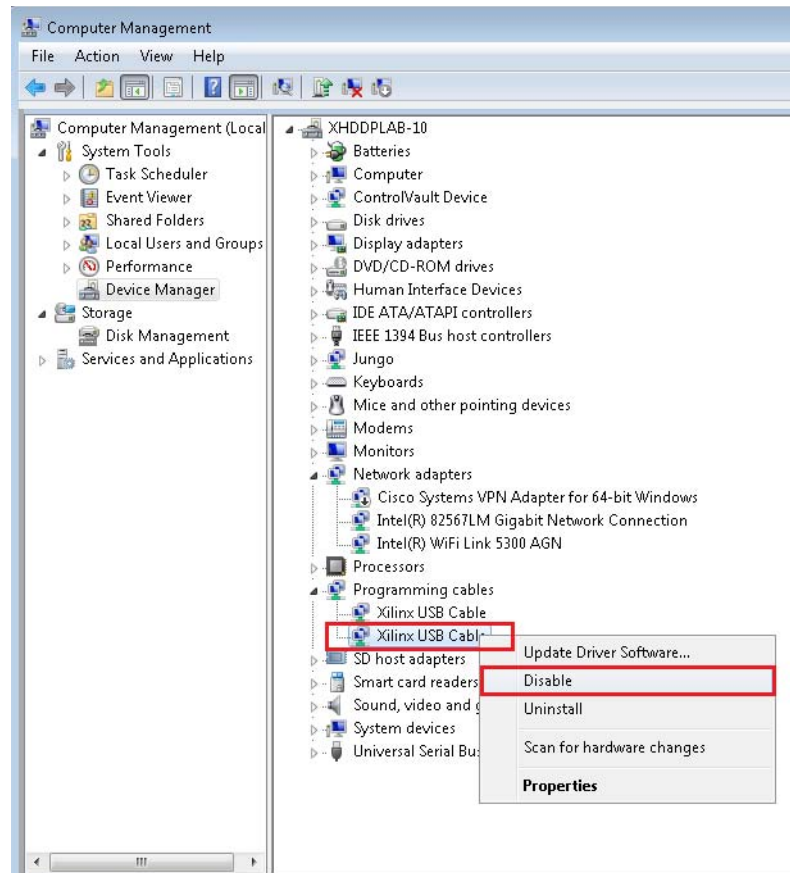

Figure 30: Disable USB JTAG Cable
1. Disconnect the JTAG cable to the transmit platform board. Optionally, the cable can be disabled as shown in Figure 30.
4. Disconnect the JTAG cable from the receive platform board and connect the cable to the transmit platform board. Optionally, enable the transmit platform cable and disable the receive platform cable as shown in Figure 30.